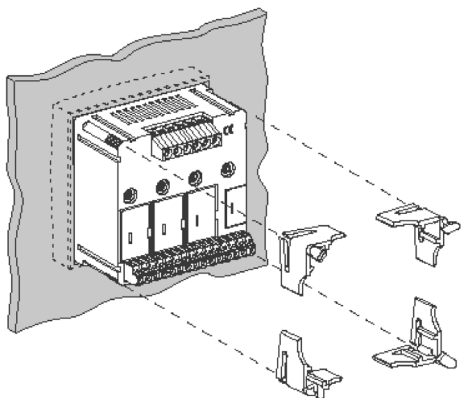

Figure 2 Mounting
2. Secure the device from behind with the four clamps, as shown in Figure 2.